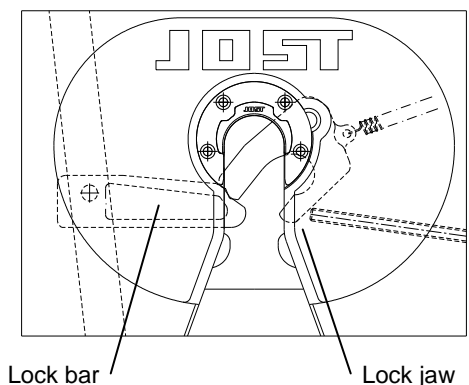

FIGURE 7
5. The release arm is held open by the lock bar resting against the open lock jaw (see figure 7).